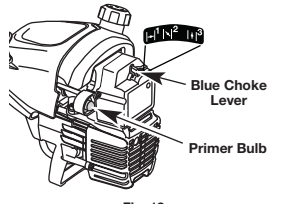

Fig. 18
- Fully press and release the primer bulb 10 times, slowly. Some amount of fuel should be visible in the primer bulb and fuel lines (Fig. 18). If you can't see fuel in the bulb, press and release the bulb as many times as it takes before you can see fuel in it.
- Place the blue choke lever in Position 1 (Fig. 18).
- Place the blue choke lever in Position 2 (Fig. 18).
- Once the engine is warmed up, place the blue choke lever in Position 3 (Fig. 18). The unit is ready for use.
IF... the engine hesitates, return the blue choke lever to Position 2 (Fig. 18) and continue warm-up.